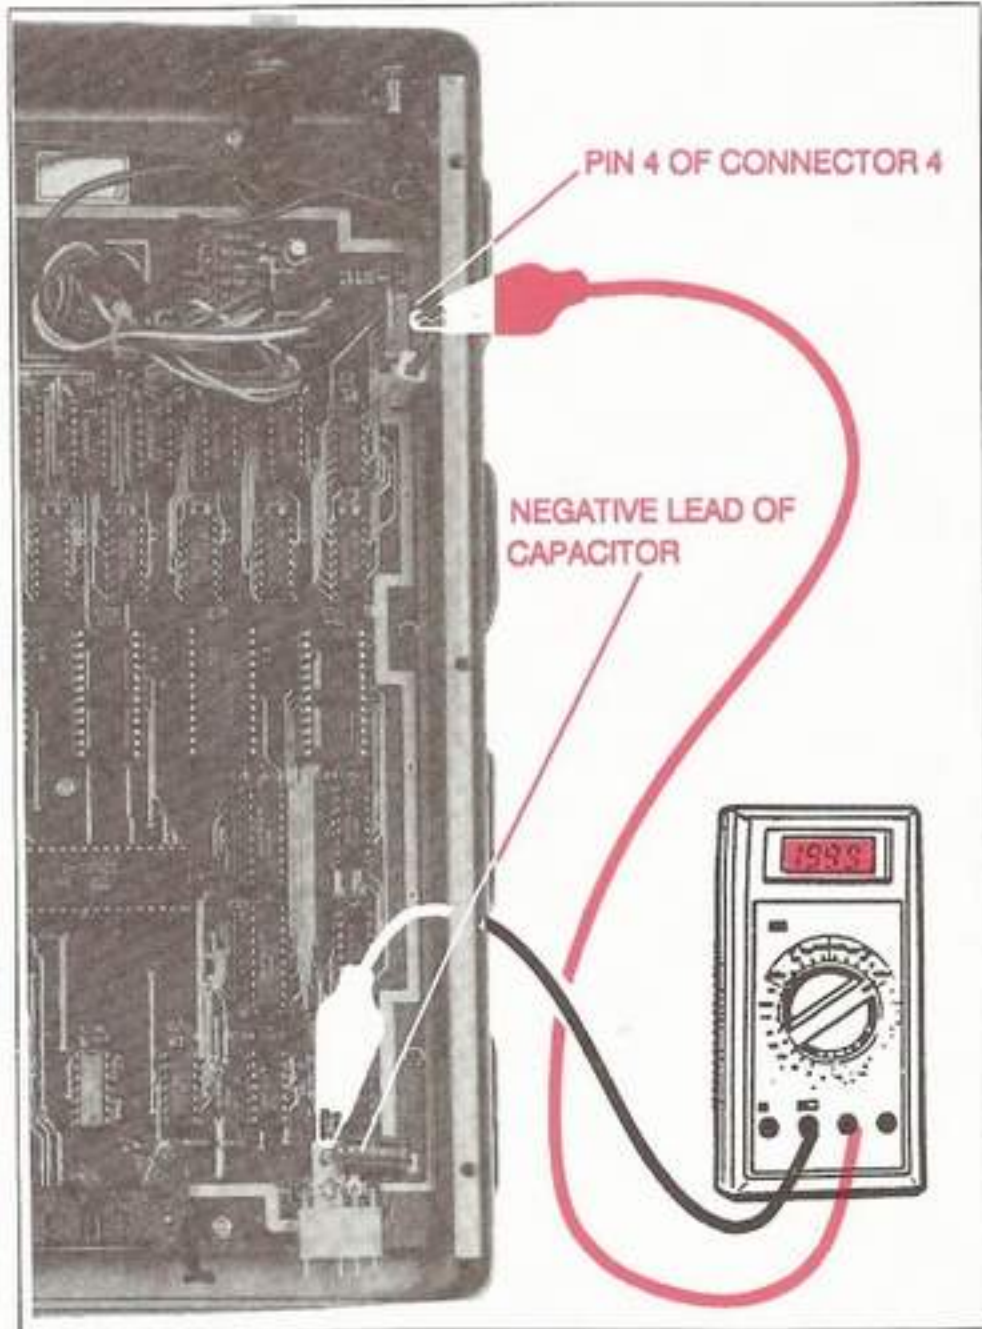

Fig. 89: The DC Voltmeter Connection
- ___ d. Connect the dc voltmeter, as shown in Fig. 89. The **BLACK** lead should be clipped to the **NEGATIVE** lead of the power input capacitor, **C0**. The **RED** lead should be clipped to the wire which is plugged to **Pin 4 (DB0)** of **Connector 4**.
- ___ d. Connect the dc voltmeter as shown in Fig. 89. The **BLACK** lead is clipped to the **NEGATIVE** lead of the power input capacitor, **C0**. The **RED** lead is clipped to the wire plugged to **Pin 4 (DB0)** of **Connector 4**.